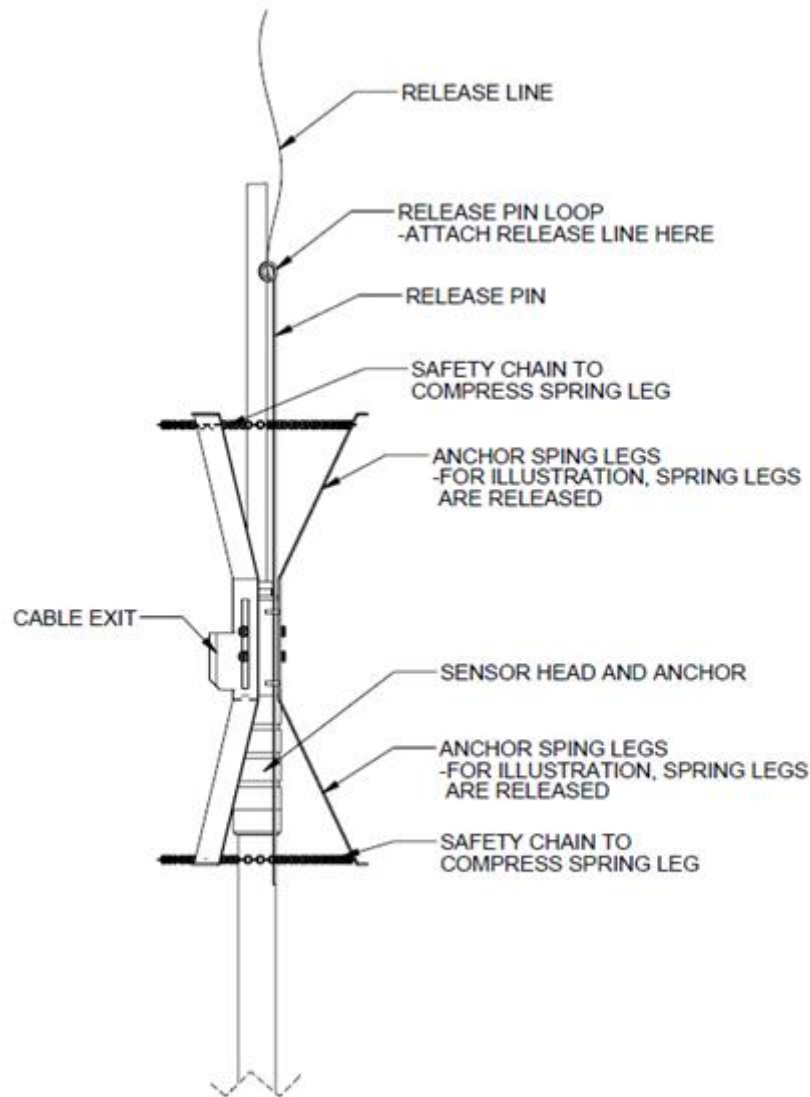

FIGURE 4-8 ANCHOR SPRING DETAILS
- a Attach a trigger release line to the trigger pin on each anchor, leaving enough slack in the line for it to exit the borehole without any tension on the line (Figure 4-8). Each trigger release line should be numbered for easy identification after the extensometer is installed.